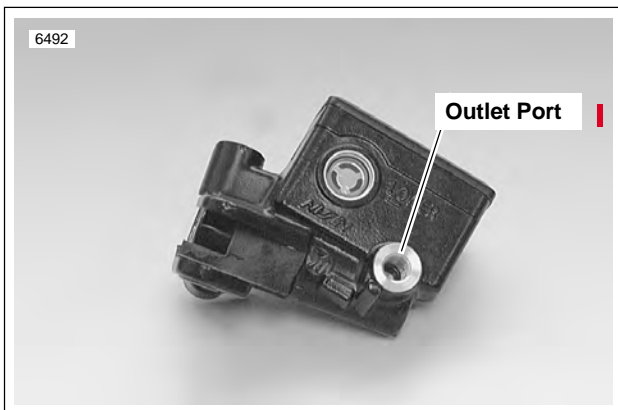

Figure 2-26. Master Cylinder Body
4. See Figure 2-26. Inspect outlet port that mates with brake line fitting. As a critical sealing surface, replace housing if any scratches, dents or other damage is noted.
1. See Figure 2-26. Check piston assembly components.
- a. Small end of spring (1) sits behind primary cup (2). Large side of primary cup faces spring.
- b. Secondary cup (3) sits within ridge at middle of piston (4).
2. Insert piston assembly, spring first, into master cylinder. Secure with a **new** snap ring (6).
3. Install ridge on boot (5) into groove on piston (4).